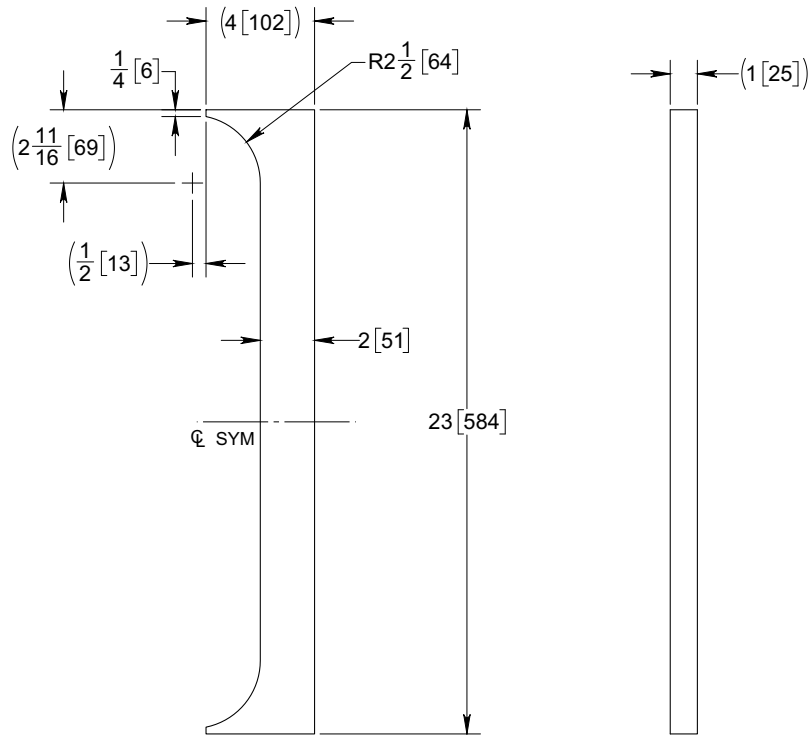

Figure 6: Plate P/N: DT27200-4
- Using ASTM A36 material, fabricate one (1) plate (item 4 on Table 1 on page 2) as indicated in Figure 6.